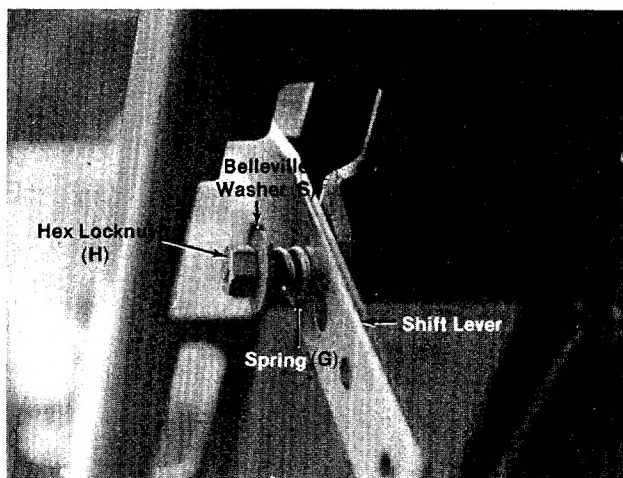

FIGURE 9.
- Place the top hole of the shift lever over weld bolt on handle panel. See figure 9.
- Place belleville washer (S), spring (G) over weld bolt as shown in figure 9.
- Secure with hex locknut (H). See figure 9.